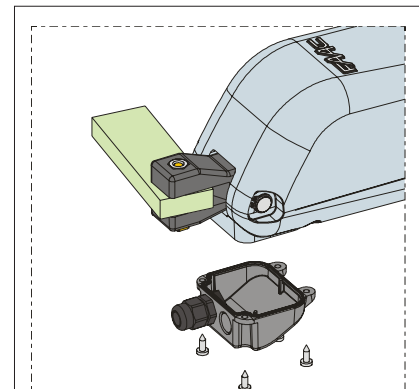

Fig. 15
- 4) Close the cover with the four supplied screws, Fig.15.